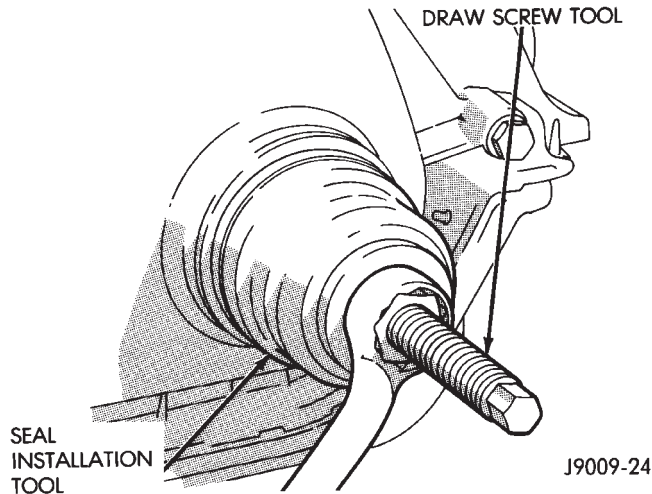

Fig. 41 Timing Case Cover Oil Seal Installation
(1) Position the replacement oil seal on Timing Case Cover Alignment and Seal Installation Tool 6139 with seal open end facing inward. Apply a light film of Perfect Seal, or equivalent, on the outside diameter of the seal. Lightly coat the crankshaft with engine oil.
(2) Position the tool and seal over the end of the crankshaft and insert a draw screw tool into Seal Installation Tool 6139 (Fig. 41). Tighten the nut against the tool until it contacts the cover.